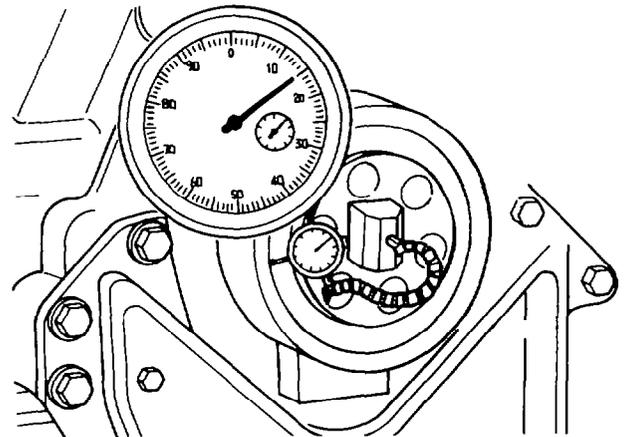

Figure 53 — Gear Cover Runout — Checking
- ba. Secure a dial indicator to the crankshaft face and place the plunger against the front crankshaft oil seal bore (see Fig. 53). Zero the dial indicator and rotate the crankshaft one complete revolution, while monitoring the movement of the dial indicator. Where total runout exceeds 0.25 mm (0.010 in.), check the bore surface for nicks and burrs, or loosen the gear cover mounting bolts and realign the gear cover, remove any burrs using a suitable oil stone.